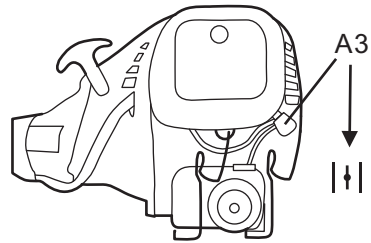

Fig. 12c
4. Depress the primer (A4) 6 times until fuel is visible. (See Fig. 12c)